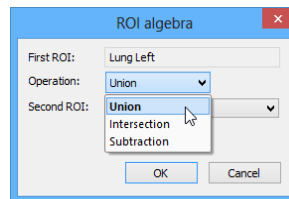

Figure 239 – ROI algebra dialog, defining the algebraic operation
3. Select the algebraic operation in the **Operation** combo box (see Figure 239).